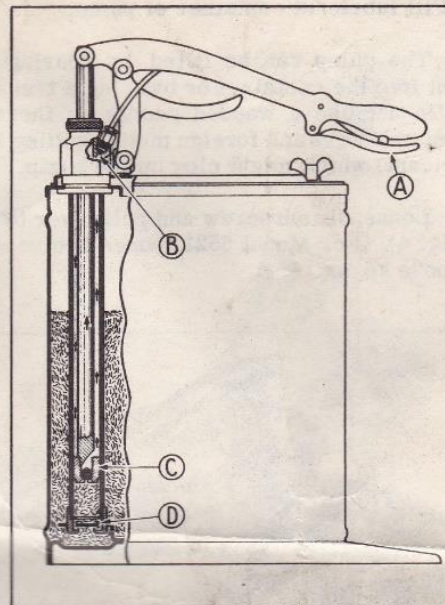

Figure 2 - Downstroke of Handle
2. PRINCIPLES OF OPERATION (Figs. 2 and 3)
from the fitting.) On the down stroke (Fig. 2) of the handle, the piston (C) travels upward in the tube. This action creates suction which draws lubricant above the flapper valve (D).